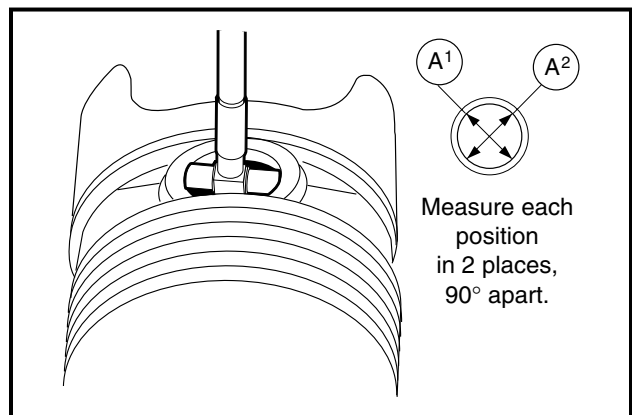

Figure 3-49 Measure I.D. of Piston Pin Hole
3. Use an inside micrometer or telescoping gauge to measure the inside diameter of the piston pin hole in the piston at several points (Figure 3-49, Page 3-25).